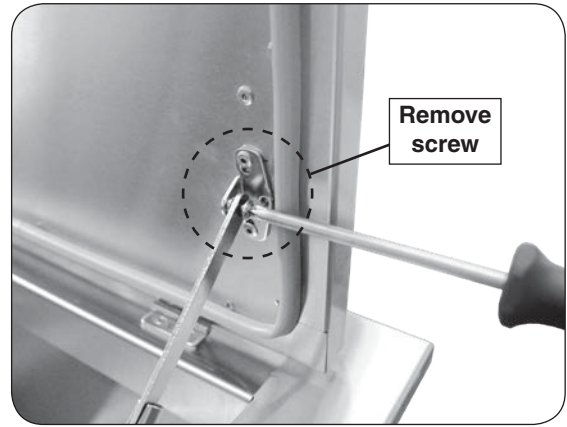

Fig. 10-1 Hinge screw removal
1. Using a Phillips screwdriver, remove the screw from the hinge on the right side of the lid (see Fig. 10-1).